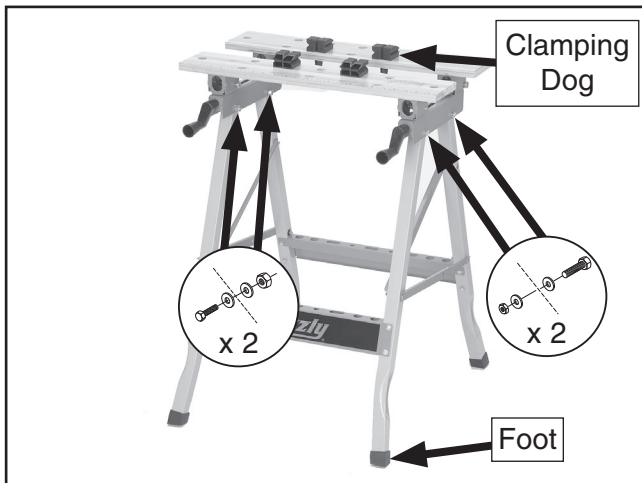

Figure 4. Legs fastened to table assembly.
6. Place the table assembly onto the leg braces, align the mounting holes, then secure with (4) M8-1.25 x 45 hex bolts, hex nuts, and (8) flat washers, as shown in **Figure 4**.
7. Install the rubber feet on the legs (**Figure 4**) so the longest side of each foot is at the corner.
8. Install the clamping dogs (**Figure 4**) in the holes on the table tops, as required, to hold your workpiece.